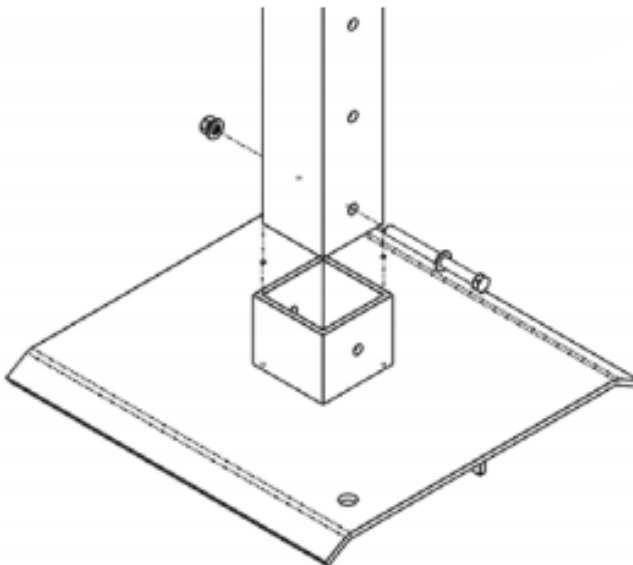

Figure 3
- 1) Attach one (1) Foot Pad to the end of one (1) Square Tube Leg and align as shown in Figure 3.
- 2) Attach one (1) 3/8" Flat Washer to one (1) 3/8" Hex Bolt and insert through hole(s) in the Foot Pad and Square Tube Leg as shown in Figure 3.
- 3) Attach one (1) 3/8" Lock Washer and one (1) 3/8" Hex Nut to the protruding end of the Hex Bolt and securely fasten with appropriate wrench until secure.
- 4) Repeat these steps for the remaining three (3) Foot Pads.